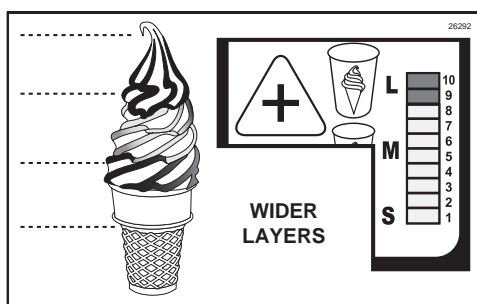

Figure 190
- To increase the timing (for wider, fewer layers), press the “+” key until the correct number of bar graph lights are illuminated. (See Figure 190.)